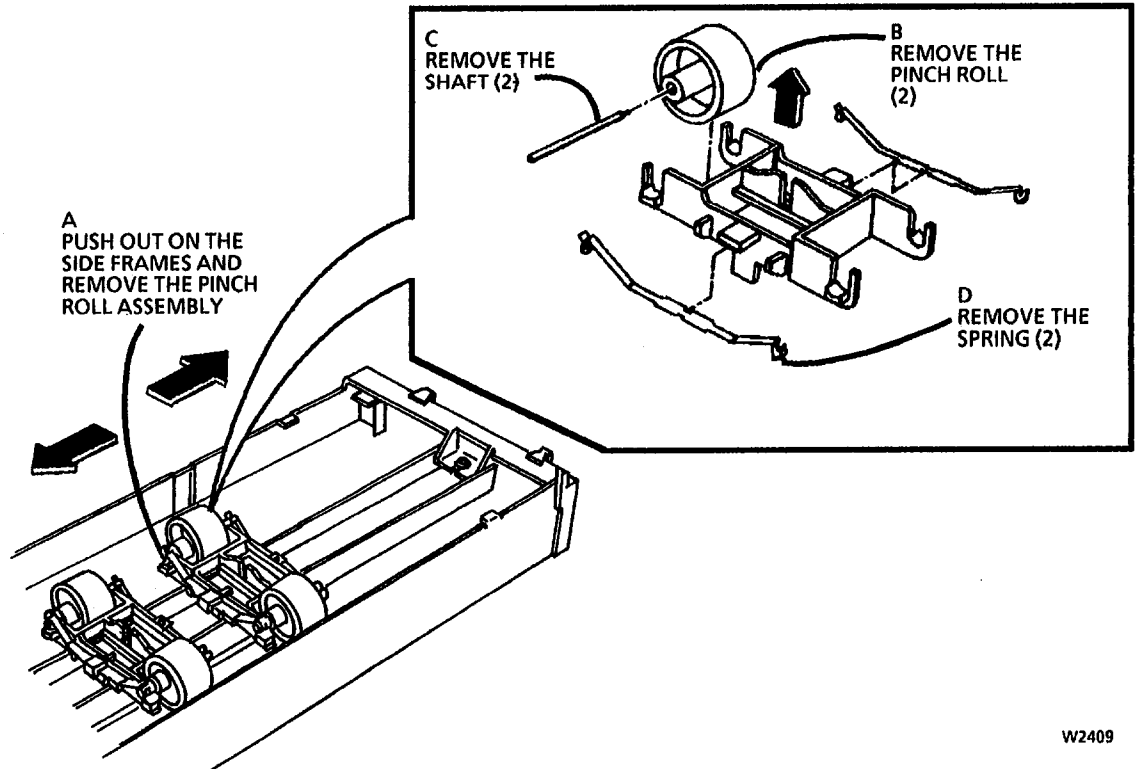

Figure 2. Removing the Document Pinch Rolls
3. (Figure 2): Remove the Document Pinch Rolls.